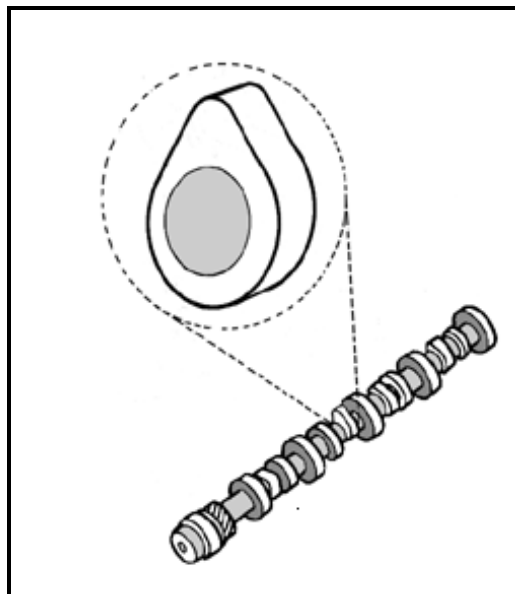

FIGURE 1.6
- 1.17 Identify the mechanism in FIGURE 1.6 below.